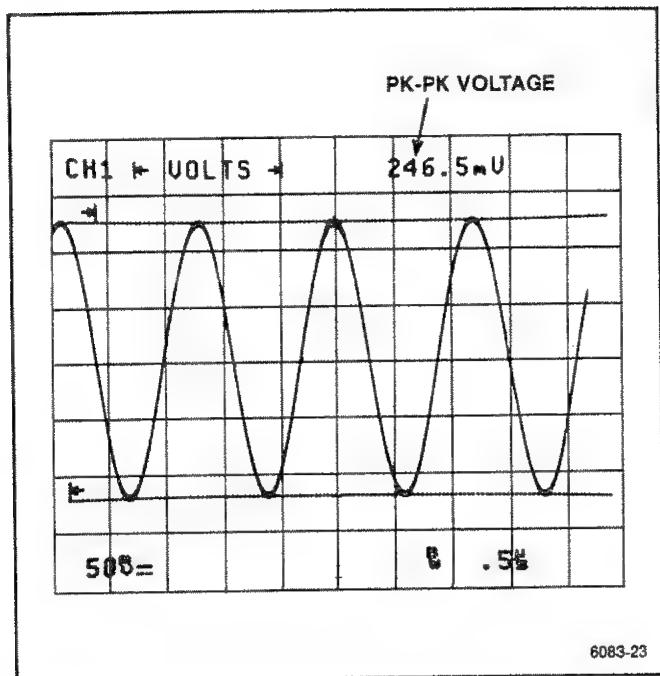

Figure 6-9. Voltage difference measurement using cursors.
2. Press the CURSORS button to display the measurement selection menu and select the \pm VOLTS \rightarrow cursors. The Voltage cursors are initialized to the peak-to-peak levels of the lowest numbered displayed channel of either CH 1 or CH 2 (see Figure 6-9).